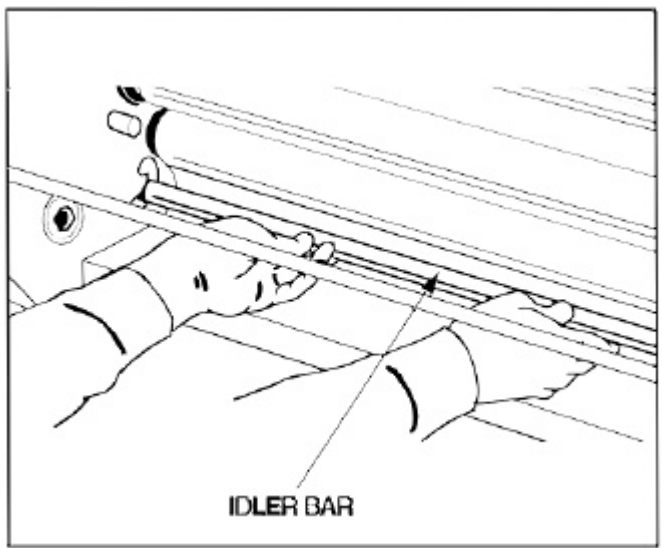

Fig. 12
1. Turn the main power switch on (I). Remove feed table.
8. Lower the bottom idler bar, (Figure 12).